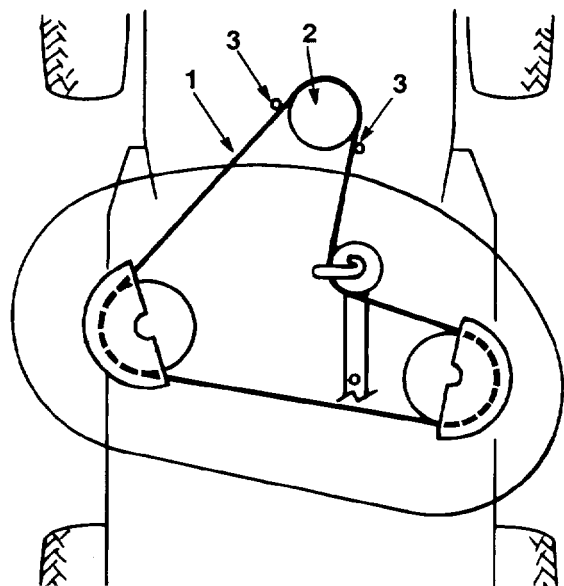

Figure 42
10. Remove the mower belt from the lower engine pulley (Fig. 42). If you are careful, you can flex the belt guide(s) just far enough away from the pulley to remove the belt. If it is too difficult to remove the belt, loosen the bolts and nuts securing the belt guides.
4. Install mower belt onto the lower engine pulley (Fig. 42). If you are careful, you can flex the belt guide(s) just far enough away from the pulley to install the belt. If it is too difficult to install the belt, loosen the bolts and nuts securing the belt guides. Loosen the bolts and nuts securing the belt guides.